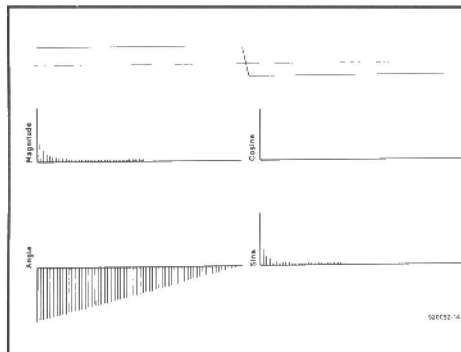

Fig. 9. Fourier plot of periodical DC wave.
*Wave IX* is a periodical DC wave, typical of that generated by many commercial transistorized inverters. An inverter is a circuit to convert a DC voltage into a periodical waveform. The Fourier analysis is plotted in Fig. 9. High-level third, fifth and seventh harmonics contribute to the shape of the wave. Note that the more higher harmonics are contained, the sharper the wave will be.